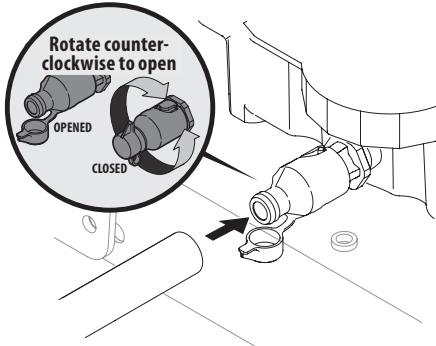

Figure 22
- Open the protective cap on the end of the oil drain valve to expose the drain port. See Figure 22.